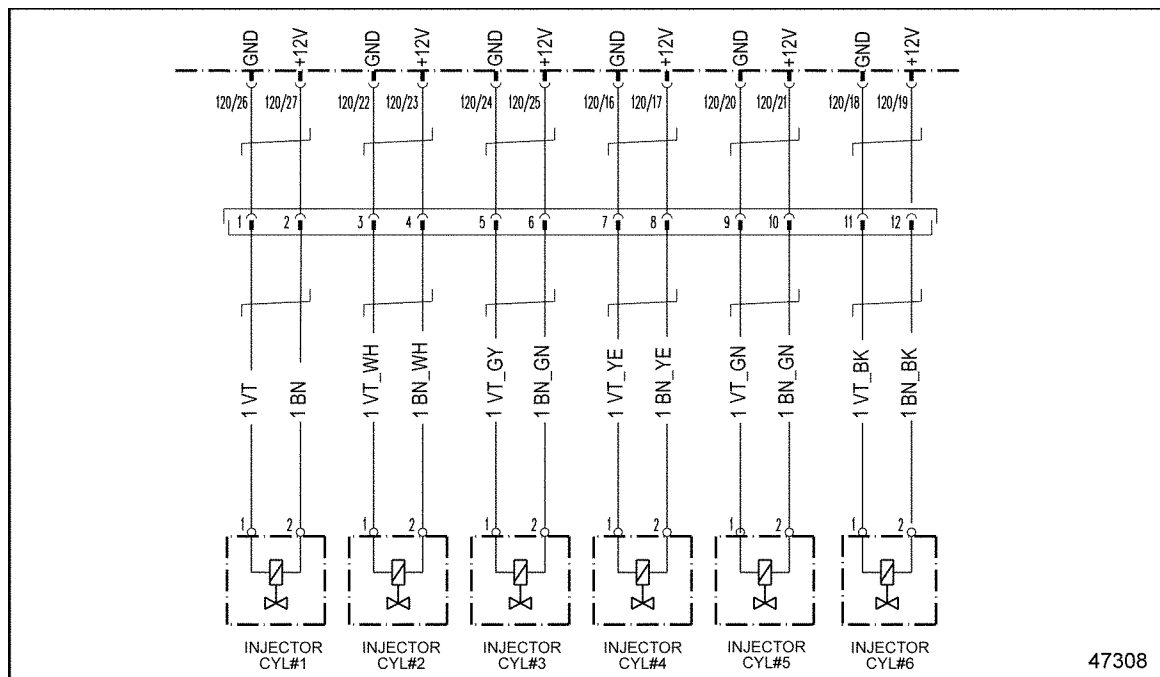

Figure 25-1 MBE 900 Injectors
4. Measure the resistance between pins 3 and 4 on the valve cover side of the connector. See Figure 25-1.